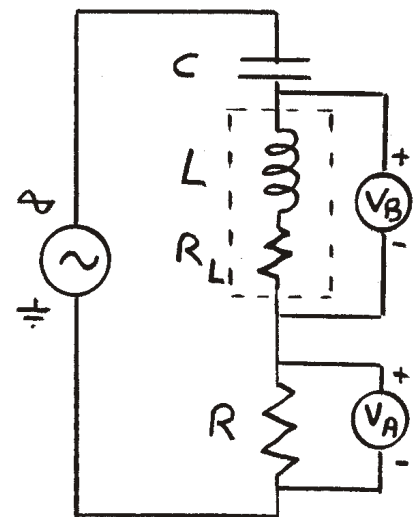

Figure 1
1) Connect the circuit with RLC series shown in figure 1. Select $R = 100 \Omega$ (check by multimeter), $L = 39 \text{ mH}$, and $C = 0.20 \mu\text{F}$. Note that the inductor has an internal resistance, R_L . Its value is printed (check it) on the plastic mount of the inductor. Write those values on your data sheet. The AC emf is that of signal generator in the Pasco 550 interface. Set the output to “sine wave” with an amplitude of 5.0 V and a frequency of 2500 Hz. Connect a voltage probe across the resistor and connect it to channel A of the interface. You will use the voltage across the resistor to monitor the evolution of current since the current “ i ” is in phase with “ v_R ”. The amplitude of current (i_0) is found by dividing the resistor voltage amplitude by 100 (checked value).
- 2) Follow by connecting a second voltage probe across the capacitor and plug it to channel B of the interface. Keep the same order of polarity with that of sensor A (connect the same color of “wire up” for the two sensors, see fig.1).